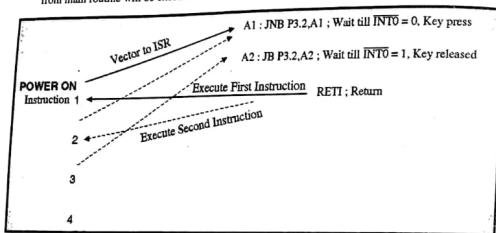

Fig. 3.10.1
- Step 5 :** Whenever we switch on power supply, micro-controller diverts itself to ISR of  $\overline{INT0}$ , as  $\overline{INT0} = 0$ . [Refer Fig. 3.10.1]